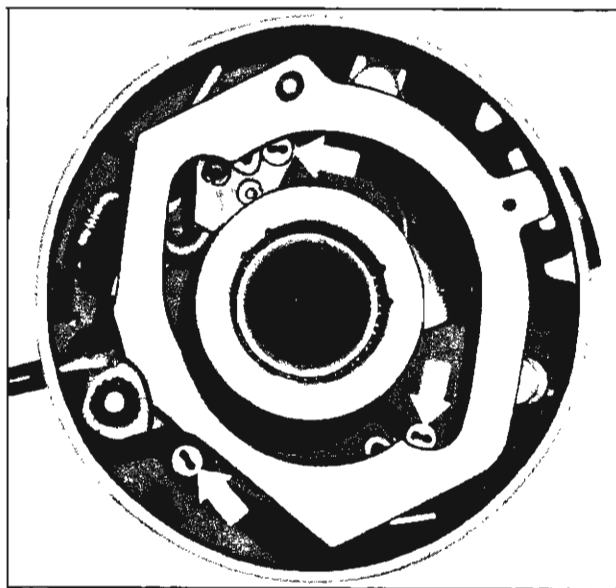

Fig. 17—Direction Signal Retaining Screws
- Remove the three direction signal housing retaining screws indicated by arrows in Figure 17. It will be necessary to shift position of direction sig-
5. Remove the three direction signal housing retaining screws indicated by arrows in Figure 17. It will be necessary to shift position of direction signal controls to gain access to the retaining screws. Disconnect "Boden" cable retaining clips. Withdraw direction signal housing and "Boden" cable.
- Remove the three direction signal housing retaining screw indicated by arrows in Figure 17. It will be necessary to shift position of direction signal controls to gain access to the retaining screws. Disconnect "Boden" cable retaining clips. Withdraw direction signal housing and "Boden" cable.